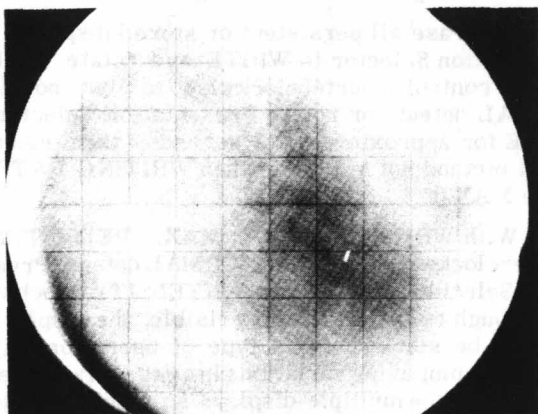

Figure 3-2. Background illumination occurs when erasing with WRITING RATE in MAX
i. **BACKGROUND ILLUMINATION** - A green cloud of illumination visible on the CRT screen, Figure 3-2.
m. Figures 3-2 through 3-9 are provided to show typical CRT displays with various control settings and input signals. They are examples which, if duplicated by the operator, will aid in understanding the operation of the Model 141A. Figure 3-9 shows small bright spots on the CRT screen which are caused by minute imperfections in the storage mesh.